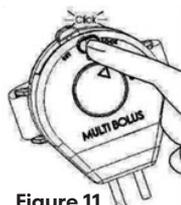

Figure 11
7. To permanently lock the bolus volume prior to the patient being released; push the lock downward (See figure 11)